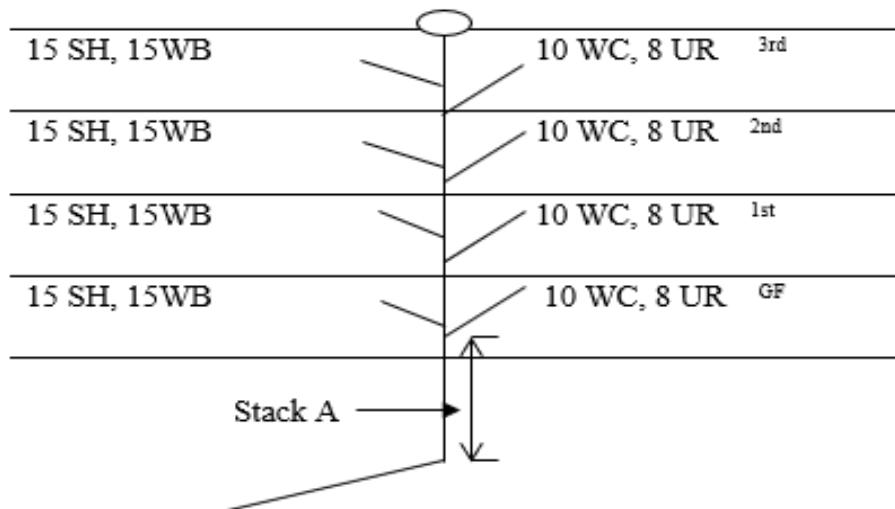

Figure 4(a) / Rajah 4(a)
- a) Estimate the total discharge unit value for branch waste pipe and branch soil pipe on the 2nd floor for a shopping complex (refer Figure 4(a) and Table C: Discharge Unit Values for Building).